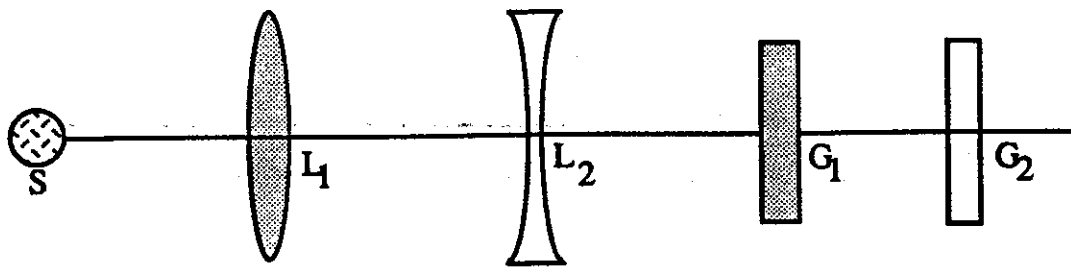

Fig. 13-8
- (e) Mount the light source S (Fig. 13-8) near one end of the optical bench. Mount the convex lens L_1 such that the object distance SL_1 lies between f_1 and $2f_1$, where f_1 is the approximate focal length of the convex lens. Mount the screen G_1 as shown in Fig. 13-8. Adjust the position of the screen (and of the lens, if necessary) to obtain a sharp image of the light source on the screen.